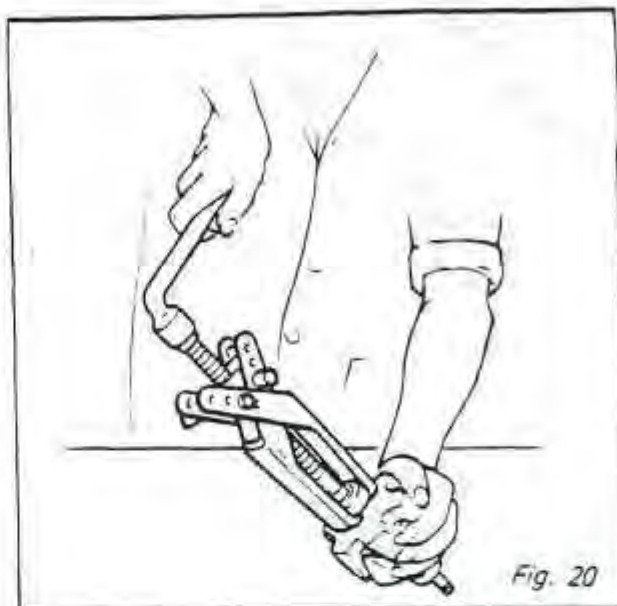

Fig. 20
1. Remove the voltage regulator (1).
2. Remove the diode carrier (5).
3. Mark the relative positions of the slip ring end bracket (6), laminations of stator (7) and drive end bracket (8).
4. Place an old fan belt around the pulley (9) and clamp the belt in vice jaws with the pulley as close to the vice as possible. The friction and self wrapping action of the belt will provide adequate reaction to loosening the pulley nut (10).
5. Remove the assembly from the vice, remove the nut, spring washer (11), spacer (12) and pulley (9).
6. Remove the spacer, washer, fan (13), washer, key (14) and spacer.
7. If the bearing remains on the spigot of the rotor assembly (16) use suitable puller for removal of bearing. *Fig. 20*